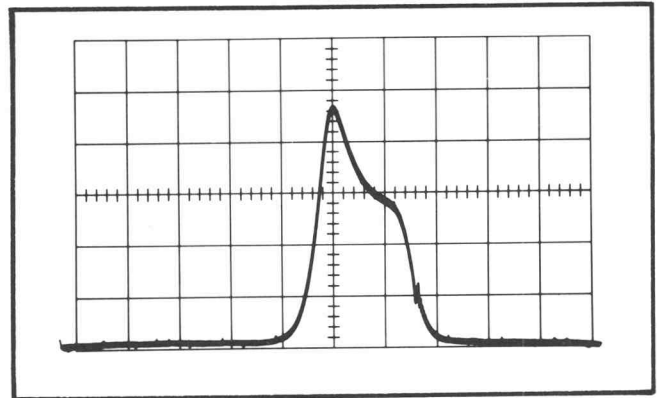

Fig. 6-10. Typical spectrum display for adjusting R543 (Step 4i).
i. Adjust R543 (100 kHz Res Cal) for a signal 1.2 centimeters wide at 3 centimeters above the baseline. See Fig. 6-10. (Adjust the GAIN control for a signal amplitude of 6 centimeters during this step.)